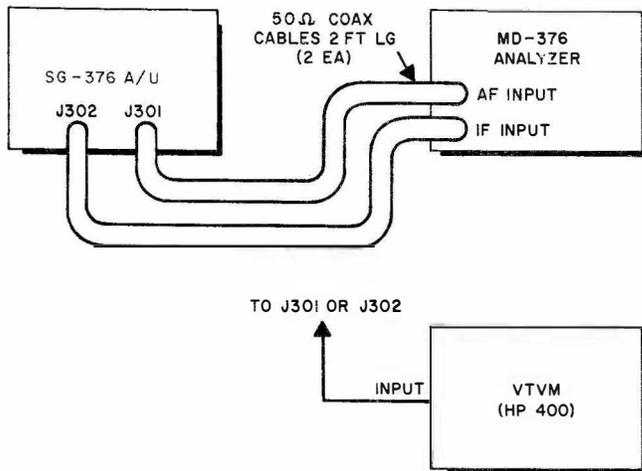

Figure 5-5. Set-up for Spurious Output Test, Connection Diagram
(5) SPURIOUS OUTPUT. - Refer to Para. 3.5.1 and 3.6.6 of MIL-G-23532 (Ships). Disconnect all test equipment and connect the Spectrum Analyzers to the I.F. OUTPUT jack, J302, and the A.F. OUTPUT jack, J301, as shown in figure 5-5.